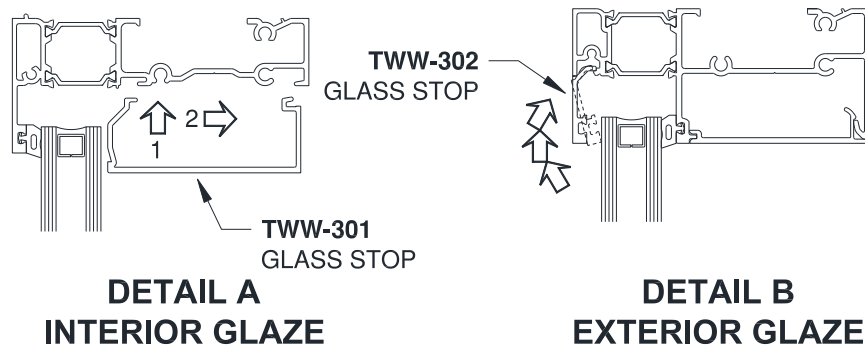

Figure 89: TWW-301 Glass Stop Installation
29.3.1 At Head and Intermediate Horizontals, install **TWW-301** Glass Stop. Lift the Glass Stop into position and hook the legs into the Head. Pull the Glass Stop toward the interior of the unit to secure the Glass Stop. Reference *Figure 89, Detail A*.
29.3.2 At Head and Intermediate Horizontals, install **TWW-302** Glass Stop. Tilt and roll the Glass Stop into place. Reference *Figure 89, Detail B*.